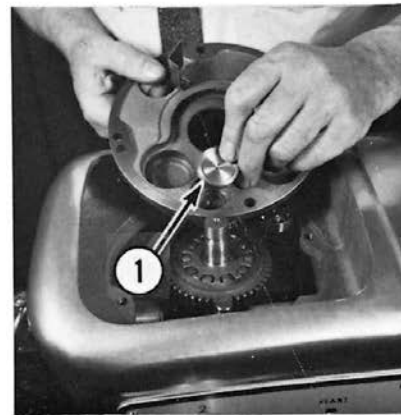

Fig. 3-35
- W. Be sure bearing pusher (1, Fig. 3-35) is in the bearing carrier. It must be installed with recessed side down toward the bearing.